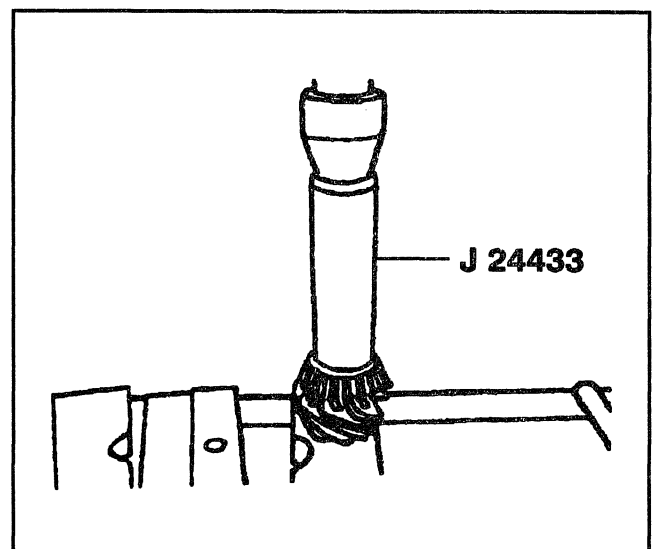

Figure 9—Installing the Inner Pinion Bearing
1. Pinion rear bearing (13) onto the pinion.
- Press the bearing onto the pinion using J 24433 (Figure 9).
2. Outer pinion bearing cup (6) using J 8608 and J 8092.
3. Inner pinion bearing cup (13) using J 24432 and J 8092.
4. A new collapsible spacer (12) to the pinion.
5. Pinion (14) into the cage (10).
6. Pinion outer bearing (6) onto the pinion.
7. Pinion oil seal (5) using J 24433 and J 8092.
8. Pinion flange oil deflector (4) and pinion flange (3) to the pinion splines.
9. Washer (2) and pinion nut (1).